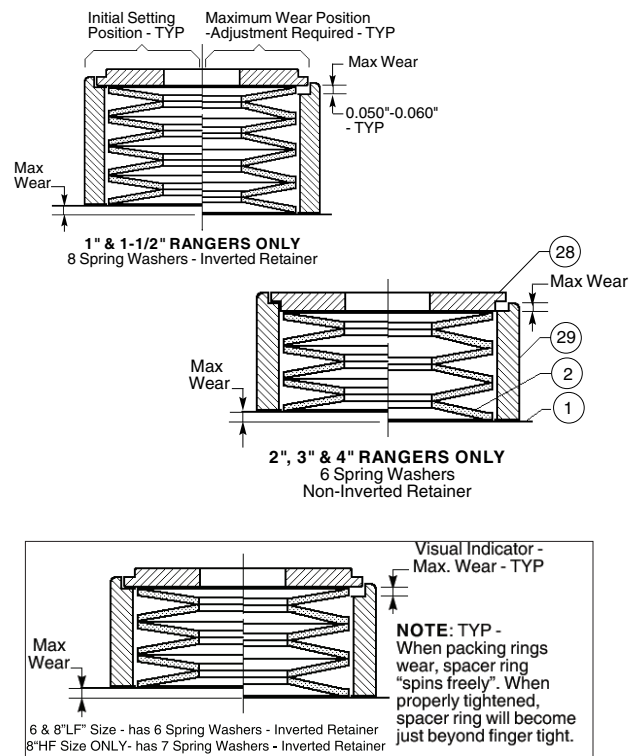
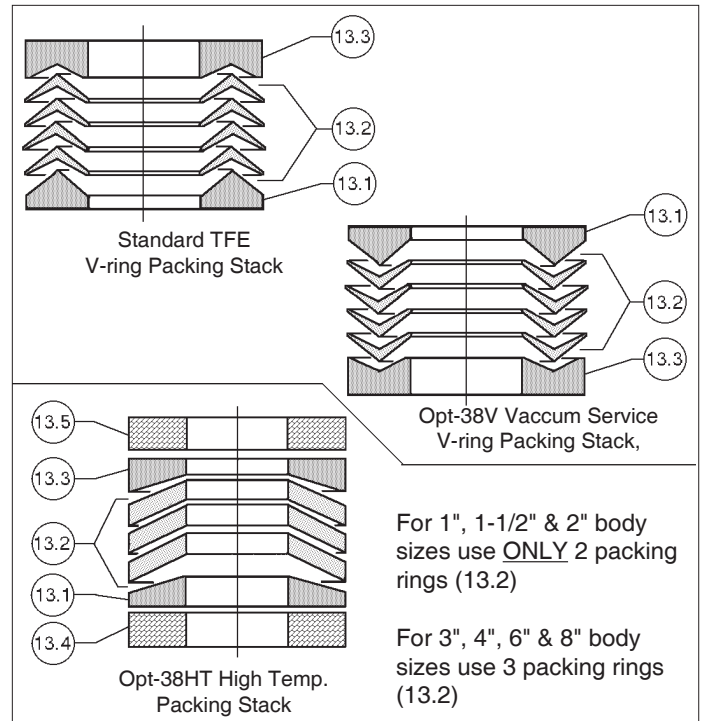

FIGURE 9
FIGURE 11
1. Ensure that packing flange nuts (22) have not worked loose during shipment.
2. For non-live loaded construction, hand tighten the nuts (22) enough to stop any leakage. Do not over tighten.
3. For live loaded construction, if spacer ring (29) is loose, tighten both nuts (22) equally
until spacer ring (29) no longer “spins freely” using two fingers. Rotate both nuts (22) additional 1/2 revolution for correct packing load. See Figure 9 for correct orientation of live-loaded packing design.
1. Remove the actuator assembly (AA) from the valve body assembly (BA). Refer to Actuator maintenance manuals IOM-48 or 148.
2. Secure body (1) in a vise with the stem (7) horizontal to the floor. Place matchmarks between yoke (12) and body (1) to assist in final orientation when re-assembled.
- a. Loosen both packing flange nuts (22) until clearance exists between the bottom of the nut (22) and the retainer (28).
- b. Spacer ring (29) should “spin freely”. If stacked mechanism (27)(28)(29) is not loose due to corrosion, debris, packed dirt, etc., tap the spacer ring (29) lightly while attempting to pry up the spacer ring (29) bottom with a thin flat tool.
- c. Remove both packing flange nuts (22) only after the live-loaded mechanism (27)(28)(29) is “free” and loose.
- d. Pry up both live-loaded mechanisms (27)(28)(29) one side at a time. Carefully lift the mechanism (27)(28)(29) over the packing stud (21) ensuring that the Belleville spring washers (27) are not dropped in removal, preventing a determination of washers' (27) orientation one-to-the-other. Set the two mechanisms (27)(28)(29) down together, side by side.
- e. Inspect the retainers (28) for orientation. Both of the retainers (28) should have the same orientation. Improper/differing orientations will cause unbalanced loading of the packing rings (13). See Figure 9 for proper orientation.
- f. Inspect both spring washer (27) stacks for proper orientation by carefully lifting off the spacer ring (29) and retainer (28), exposing the spring washer (27) stack. Each stack of spring washers (27) should be oriented the same. Improper/differing orientation will cause unbalanced loading of the packing rings (13). See Figure 9 for proper orientation.
- g. Replace all Belleville spring washers (27) if there are any signs of corrosion. It is recommended that spring washers be replaced in full sets. The spacer rings (29), retainers (28), as well as the packing studs (21) should be replaced if corroded.
- h. Remove yoke (12) bolting by removing two cap screws (19) on 1", 1-1/2" and 2" sizes, or two nuts (22) on the 3", 4", 6" and 8" sizes.
- Secure body (1) in a vise with stem (7) vertical to the floor. Reassemble stem (7) per appropriate Subsection E., F., or H.
- Never replace packing (13) without reconditioning the stem (7) surface finish and the body (1) stuffing box as specified in Subsection IV.D.
- For TFE V-Ring Packing. (See Figure 11.)
NOTE: Following text pertains to “standard” packing stack (13) orientation. Stack procedures differ slightly for other packing options. See Figure 11.
- Remove packing follower bushing strip (16). Solvent clean packing follower (15). Insert new packing follower bushing strip (16). Ensure no overlap of strip (16).
- Carefully place lower adapter (13.1) of packing ring set (13) over stem's (7) end, properly oriented (see Figure 11). Using the packing follower (15), push the adapter (13.1) into the body's (1) stuffing box.
- Carefully install the first individual V-ring (13.2) over stem's (7) end, properly oriented. Push down as far as possible using fingers. Carefully place each ring (13.2) upon the other until all V-rings (13.2) are stacked, properly oriented.
- Place upper adapter ring (13.3) over the stem's (7) end, properly oriented.
- Place the packing follower (15) over the stem (7) end, properly oriented, until sitting on the upper adapter ring (13.3). Push down on the packing follower (15) using fingers; all V-rings (13.2) and upper
- i. Place each spring washer (27) stack over its packing stud (21) oriented as shown in Figure 9.
- j. Place each spacer ring (29) over its packing stud (21) and spring washer stack (27) oriented as shown in Figure 9.
- k. Place each retainer (28) over its packing stud (21) oriented as shown in Figure 9. Ensure that each retainer (28) is properly positioned into each spacer ring's (29) groove, and that the retainer's (28) inversion is correct.
- a. Solvent clean the packing follower (15).
- b. Carefully place the lower braided ring (13.4) over the stem's (7) end. Using the packing follower (15) push the braided ring (13.4) into the body's (1) stuffing box. **NOTE:** *It will be necessary to pull up on the stem (7) as the rings (13.2, 13.4) and lower adapter (13.1) are "pushed" into the stuffing box.*
- c. Carefully place the lower adapter (13.1) properly oriented (see Figure 11) over the stem's (7) end and push into the stuffing box similar to the lower braided ring (13.4) of Step 4.b.
- d. Carefully place a packing ring (13.2) properly oriented (see Figure 11) over the stem's (7) end and push into the stuffing box similar to the lower braided ring (13.4) of Step 4.b. Repeat for each ring (13.2).